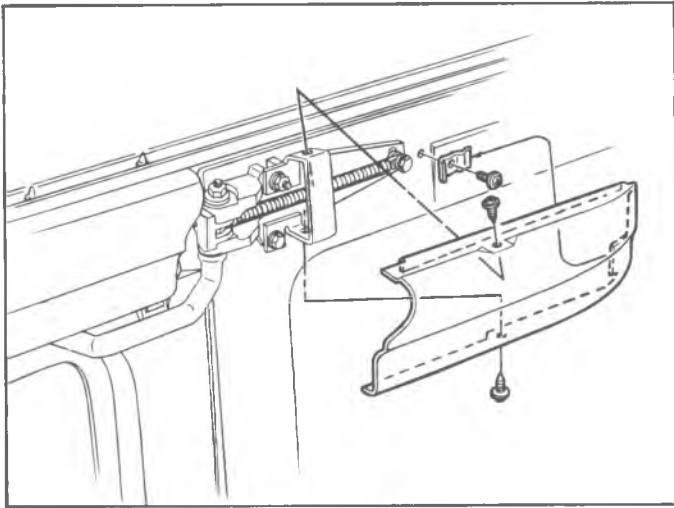

Fig. 22G—Hinge Cover
2. Remove upper rear hinge cover, shown in figure 22G.
1. Remove the hinge cover and rear track cover. See figures 22G and 28G.